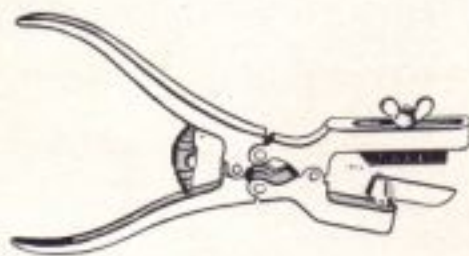
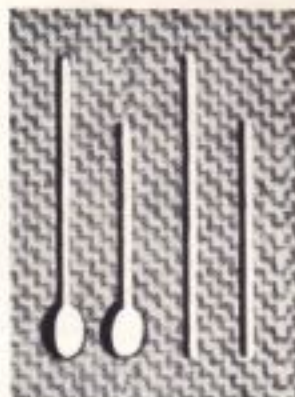

Fig. 48
Fig. 49
18. Take cutters (Fig. 48) and cut out the number of buttonholes needed, making sure that the round part of the cut buttonhole is about half an inch away from the edge of the garment (Fig. 49).